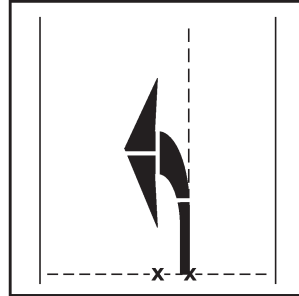

Figure 61
- Lay out the center section of the curve arrow above the base section. Lay out the top two sections of the arrow next to the center section (see Figure 61).